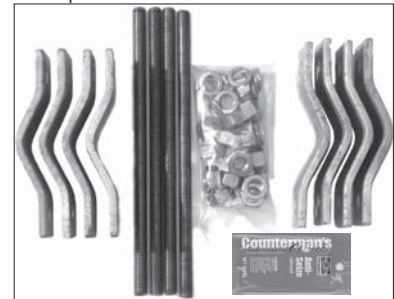

Figure 2:
1. Apply anti-seize compound to threaded rod ends. Insert rods through dual clamps with hex nuts and lock washers in the middle of the clamps as shown in figure 2. Mount both clamps to the support structure with 2 single clamp plates, hex nuts, and lock washers. Arrange clamps so that 1"-2" of ferrule is exposed above and below the clamps. Be sure to allow sufficient thread length on the antenna side of the clamps.